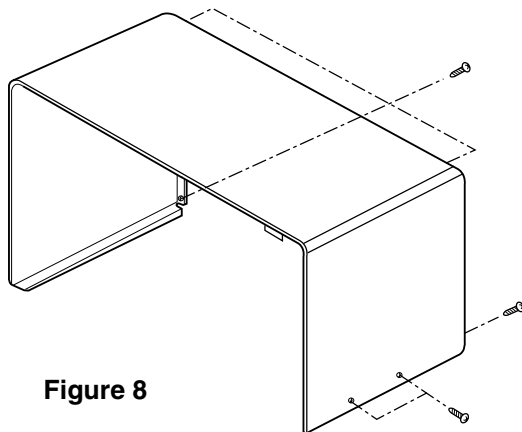

Figure 8
A. REMOVING OUTER CASE (Figures 8)
- (1) Remove three screws from the rear section.
- (2) Remove one screw from the side section.
- (3) Push the outer case back about 1 inch (3cm).
- (4) Lift the case from the set.